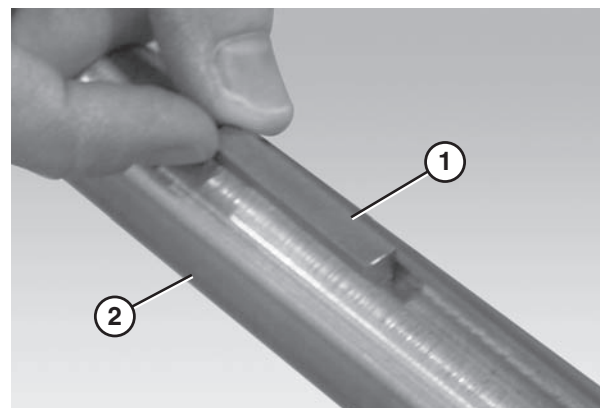

Figure 4
1. Insert the drive spindle key (Figure 4, item 1) into the drive spindle keyway (Figure 4, item 2).